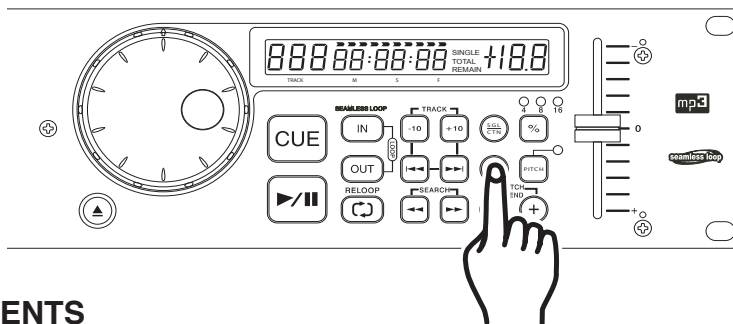

Figure 11
11. CHANGING THE TIME DISPLAY (29, 30, & 31)/TIME BAR (24):
The time may be displayed in three different modes; Total Remain, Remain, and Elapsed. During normal playback, pressing the *TIME BUTTON* (11) as in figure 11, will change the time display information (29, 30, & 31) in the LCD. The following is a break down of the time settings and their definitions:
- 1) TOTAL REMAIN (27) - This details the time in the LCD (29, 30, & 31) as the current cds' total remaining time.
- 2) REMAIN (28) - This details the time in the LCD (29, 30, & 31) as the current tracks' remaining running time.